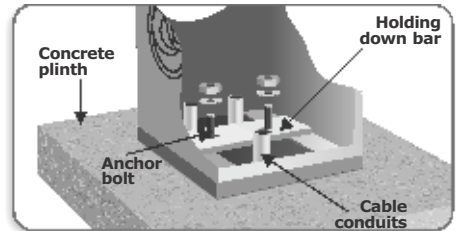

FIGURE 27. CLAMPING THE ENCLOSURE
- Align the enclosure and make sure the two anchor bolts go through the holes on the holding down bar as shown in Figure 27.